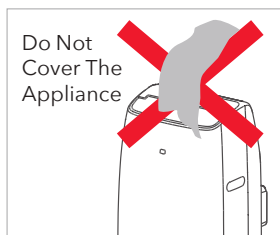

Fig. 17
- Never place objects of any kind on the appliance (► Fig. 17).